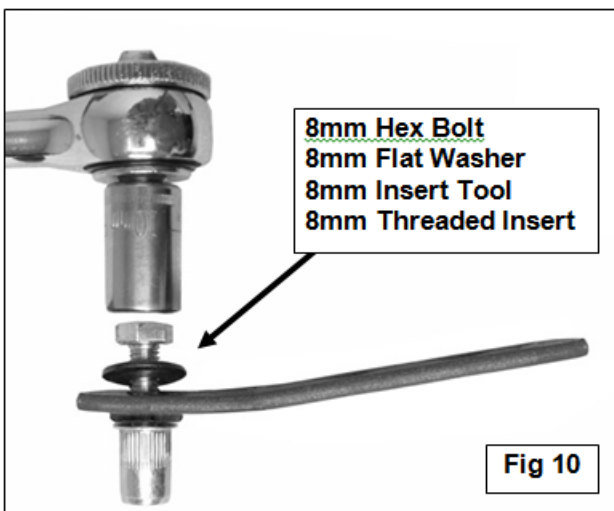

Fig 10
8	Select the 8mm Threaded Insert Tool, (1) 8mm Threaded Insert, (1) 8mm Flat Washer and (1) 8mm x 25mm Hex Bolt, (FIG 10) . Insert the assembly into the factory hole. Firmly hold the tool handle and assembly up tight against the floor panel and tighten the 8mm Hex Bolt until the insert is fully expanded in the hole, (FIG 11) . NOTE: Do not over tighten or a pull out may occur. Once Insert is fully compressed, remove the bolt and tool from the Insert.